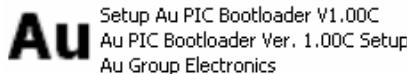

Figure C-1
- Double click icon of the "Setup Au PIC Boot-loader V1.00B" to start installing Au PIC Boot-loader (Figure C-1).